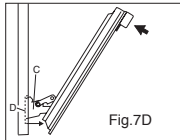

Fig.7D
5) Using both hands, push the oven door lightly inwards, toenable the door hinges "C" to come away from the slots "D" (see fig. 7D) and pull the door towards you until it is released from the oven.